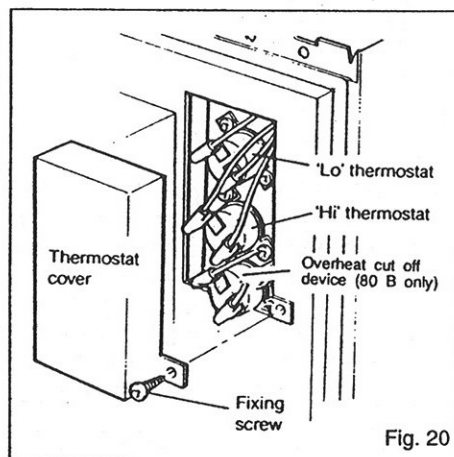

Fig. 20
- 80 B only** - Remove the screw securing the thermostat cover, see Fig. 20 and remove the cover. Unscrew the fixing screws and remove the overheat cut-off device from the mounting plate on the flow pipe.
### 5.7 To replace the 'Hi' or 'Lo' thermostats - see Fig. 20.
2. Remove the screw securing the thermostat cover, see Fig. 20, and remove the cover.
6. **80 B only** - Remove the two cover plates (one each side) adjacent to the heat exchanger inlet and outlet pipes, see Fig. 9. Remove the two screws securing the flue spigot to the flue outlet mounting plate and withdraw the spigot. Remove the remaining two screws, at the top, securing the flue outlet mounting plate, see Fig. 9, and carefully withdraw the plate. Remove the thermostat cover - top right hand corner of the chassis, see Fig. 20 and remove the three thermostats from the pipe. Disconnect the inlet and outlet pipes from the top of the boiler and remove the nuts securing the heat exchanger inlet and outlet pipes to the top of the chassis. Carefully lower and remove the heat exchanger.